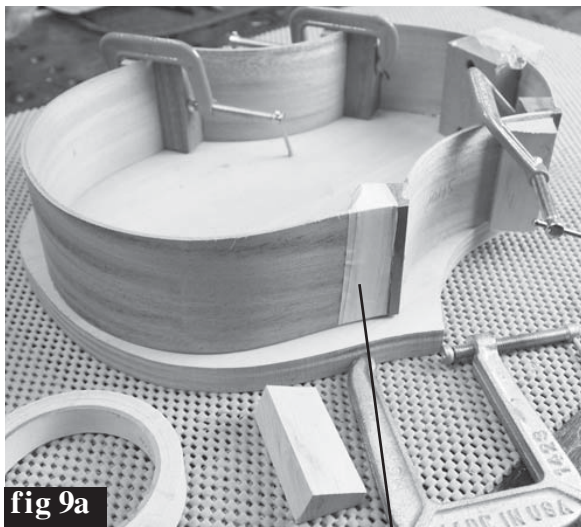

fig 9a
9. When this assembly has fully dried, you can use masking tape to pull the final corner together roughly (fig 9a). Do this WITHOUT GLUE first, just to make sure everything works easily for you, and no corner blocks break free.